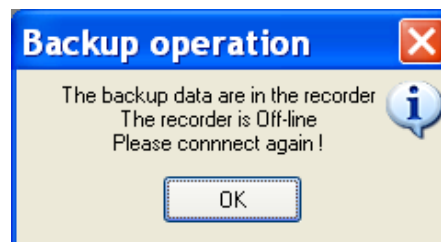

Figure A.7 Backup Operation
6. The Mercury software downloads the RBD file into the recorder and the window in figure A.7 appears. Click OK.